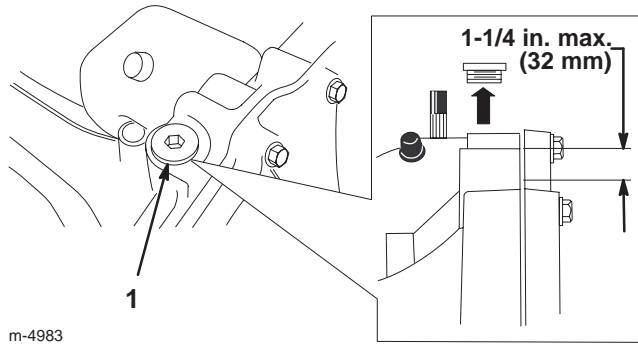

Figure 28
6. Clean around the fill plug (Fig. 28) so that dirt cannot fall into the reservoir if fluid needs to be added.
Note: The level should be a maximum of 1-1/4 in. (32 mm) below the top of the fill port (Fig. 28). Add oil if necessary.